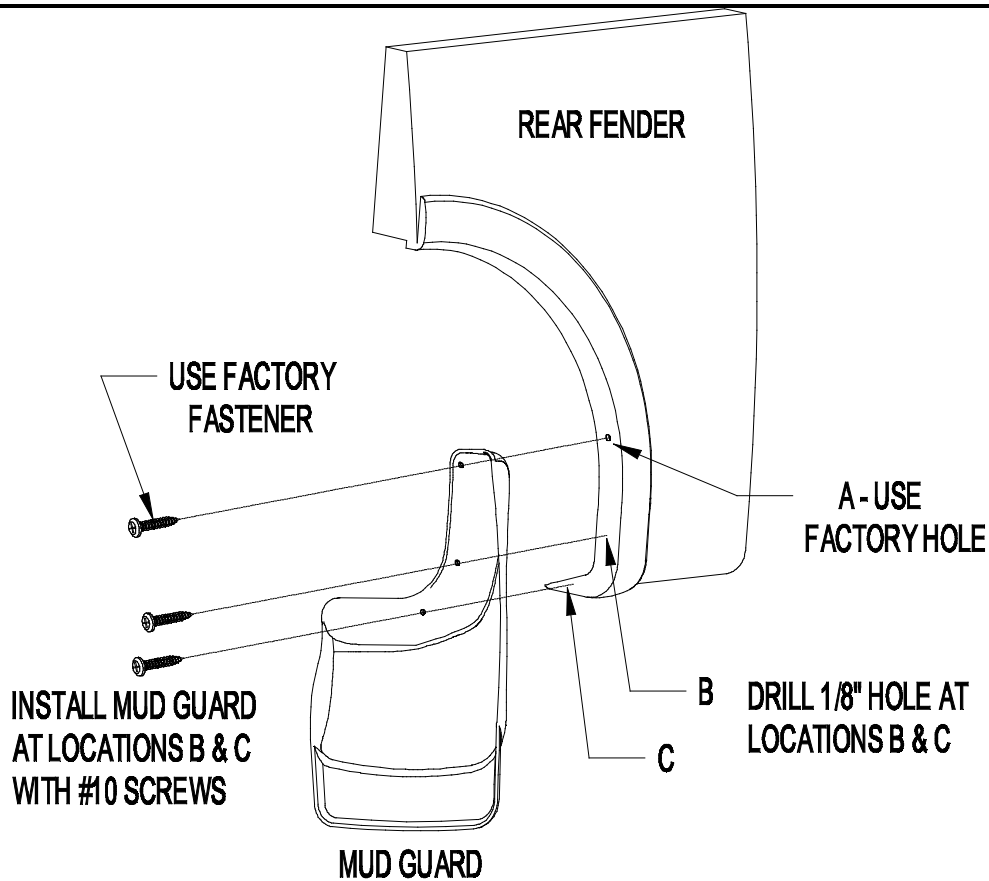

Figure 1
2. Remove factory fastener from location A (Figure 1).
5. Install #10 screws at locations B and C, through mud guard into fender flare and fender (Figure 1).